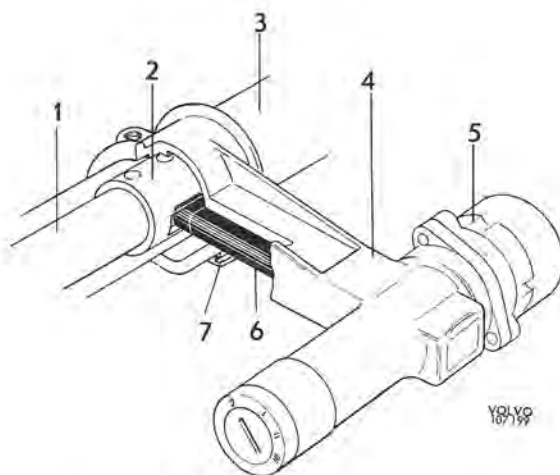

Fig. 6-35. Steering wheel lock
The sector shaft (20) is journaled in the steering housing and side cover by means of needle bearings, see Fig. 6-35. Sealing between the valve housing and the upper section of the housing as well as between the intermediate piece and worm is catered for by O-rings and plastic rings.